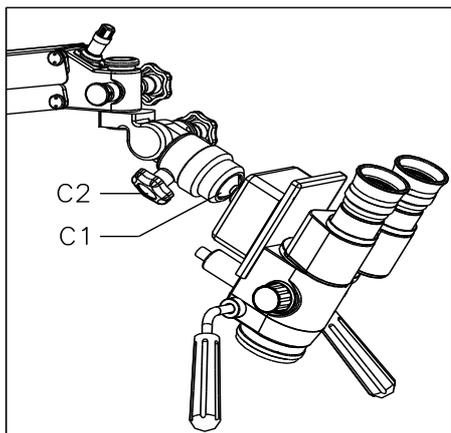

Fig. 7
- (1) The lamp house is equipped with a spare bulb module [8]. In case the bulb burnt out during an operation, only need to turn off power switch and pull out the bulb module [9](Fig. 7) then insert the spare bulb module [8] to the same direction as being pulled out. After that, switch power on and continue the operation.
It is used for ENT that the universal coupling [C1] and the erect geminate ocular drawtubes' [A1] combination. The microscope lens can be rotated in X, Y, Z plane after the star fixation knob [C2] is unscrewed. (Fig.7)